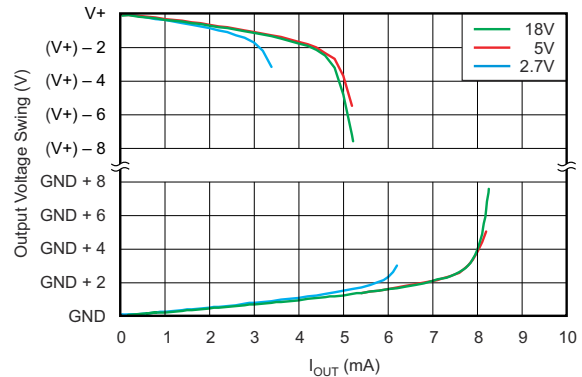
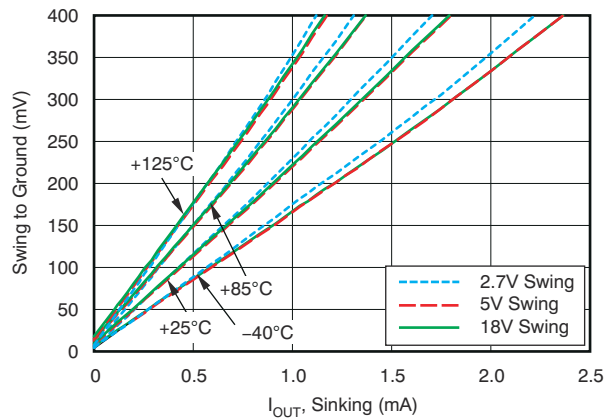

Figure 6-16. INA284-Q1 Output Voltage Swing vs Output Current
Figure 6-18. INA283-Q1 Swing to Ground vs Output Current
(5) See typical characteristic graphs Figure 6-16 through Figure 6-18.